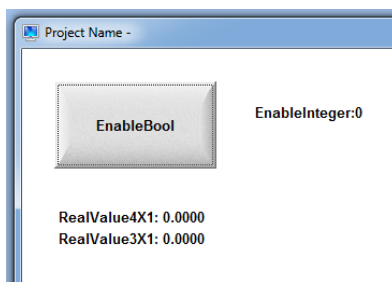
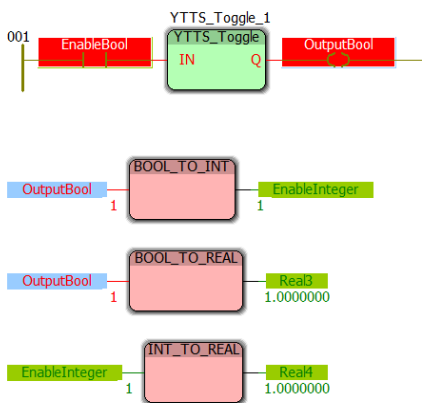

FIGURE 6: SIMPLE HMI READS/WRITES VARIABLES TO THE MPIEC CONTROLLER.
FIGURE 7: MOTIONWORKS IEC PROGRAM THAT TOGGLES GLOBAL VARIABLES BETWEEN 0 AND 1.
- Figure 6 is an HMI created in InduSoft. The EnableBool button toggles **EnableBool** in the MotionWorks IEC program (Figure 7). **EnableInteger**, **RealValue4X1**, and **RealValue3X1** are read from their corresponding hardware addresses and their values are updated in the HMI.